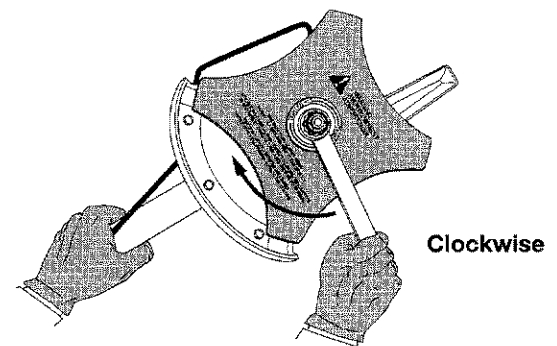

Fig. 14
- Hold the locking rod in place by grasping it next to the boom of the unit (Fig. 14).
3. While holding the locking rod, loosen the nut on the blade by turning it clockwise with a 5/8 inch closed-end or socket wrench (Fig. 14).